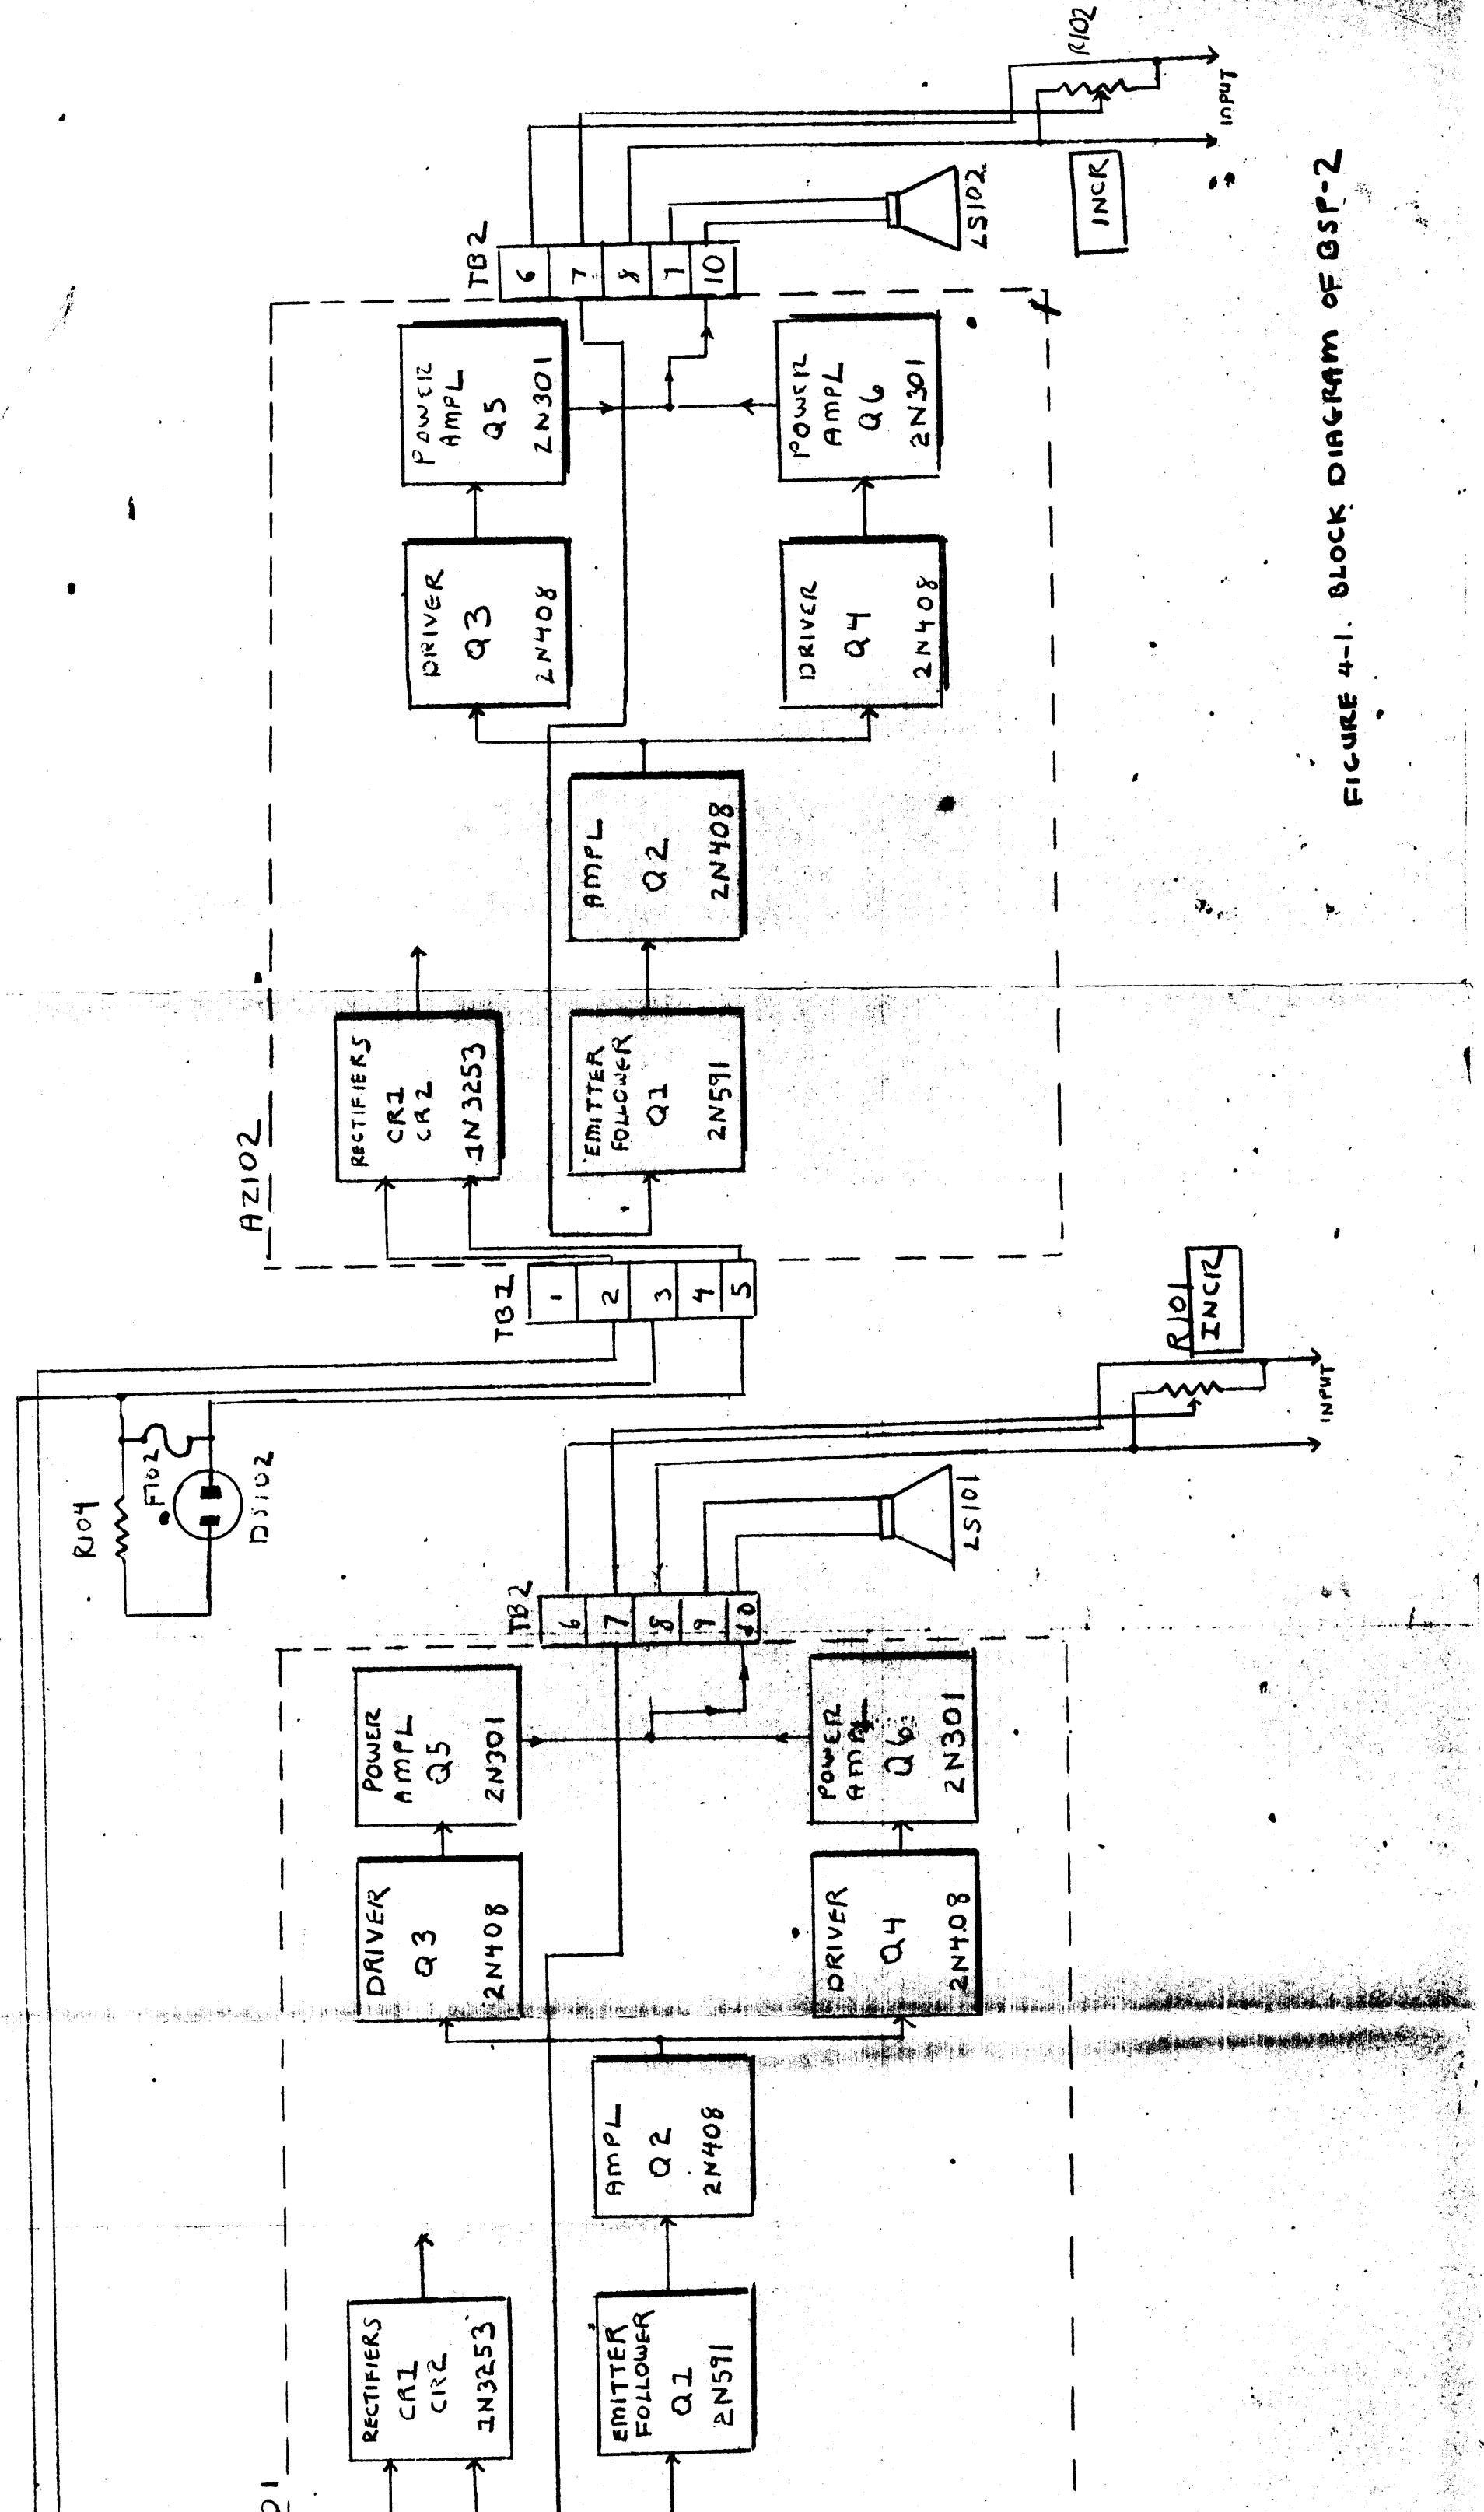

FIGURE 4-1. BLOCK DIAGRAM OF BSP-2
a. FUNCTIONAL DESCRIPTION. (See figure 4-1)
4-2 CIRCUIT ANALYSIS OF AMPLIFIER SUBASSEMBLIES (See figures 4-1, 8-1)